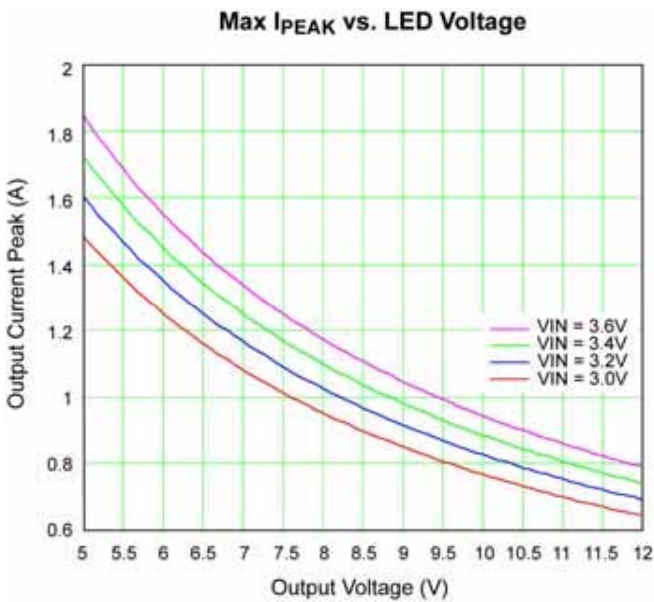

Figure 8. Peak Output Current vs. V_{OUT}
The SOA (safe operating area) of the MIC2298 is shown in the typical characteristics sub-section. This graph represents the maximum continuous output power capability of the part when used in the evaluation board layout. An alternative layout with more copper area for heat sinking will increase the area under the SOA curve. Note that the SOA is for continuous power and not peak power and is effectively a thermal limitation. The SOA is true for a time constant of approximately >1 second. Therefore, any load transient with a period of < 3s can exceed the SOA curve power up to a maximum limited by the current limit of the MIC2298. Figure 8 shows the theoretical output current limit of the MIC2298 using the Evaluation Board inductor value of 4.7µH.
- The time constant of the driver is < 3 seconds, so one can look at the peak current capability of the driver in Figure 8.
- Looking at Figure 8, the MIC2298 can achieve more than the required 800mA peak current at 8.4V.